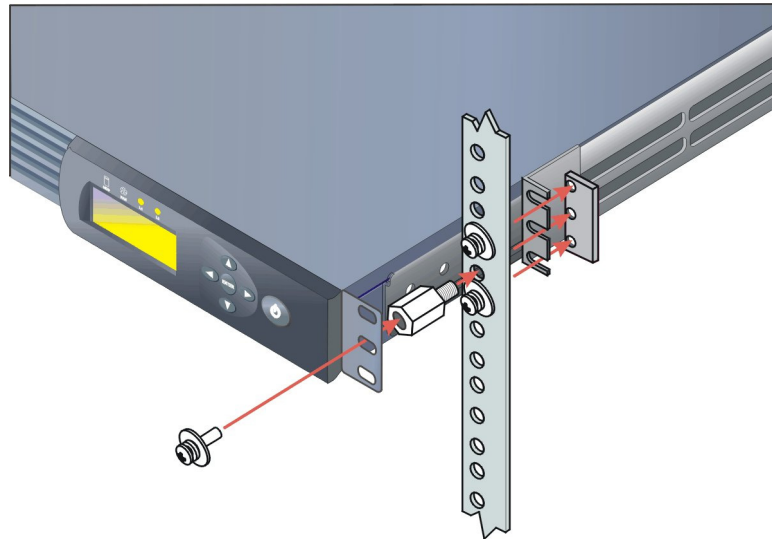

Figure 2.6. Install Hexagonal-Nut Standoffs and Securing Screws
4. Install one hexagonal-nut standoff per side (two total) to prevent the appliance from moving. At the front of the appliance (as shown in Figure 2-6), screw a standoff through the remaining (center) hole where each three-hole bar nut attaches to the rack-mounting standard. Secure each standoff with a 5/16 open-end wrench.
5. As shown in Figure 2-6, use the two (2) remaining pan-head Phillips screws (#10 x 1/2) to secure the appliance rack-mount ears (factory-installed on the appliance) to the hexagonal-nut standoffs. Secure the screws with a #2 Phillips screwdriver.
Figure 2-6 does not depict the square alignment washers required between the hexagonal-nut standoff and rack standard in an HP 9000, 10000, or 11000 series cabinet.